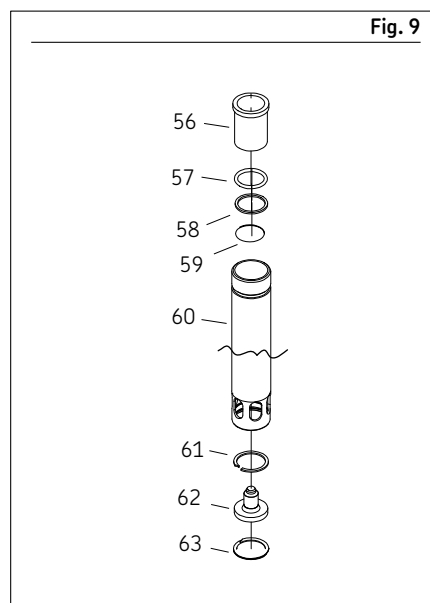

Fig. 9
- 18 Remove outlet pin nut (55) from pump housing (37).
- 19 Remove o-ring (54) from groove in outlet pin nut (55).
- 20 Remove back up washer (52) from outlet pin nut (55).
- 21 Remove o-ring (53) from outlet pin nut (55).
- 22 Repeat steps 18 - 21 for remaining outlet pin nut (55) on opposite side of pump.
- 23 Remove retaining ring (63) from housing tube (60). Refer to Fig. 9.
- 24 Remove shovel plug (62) from housing tube (60).
- 25 Remove spiral retaining ring (61).
- 26 Loosen and remove tube housing (60) (→ Fig. 9).
- 27 Remove bronze bearing (56) from tube housing (60).
- 28 Remove o-ring (57) from tube housing (60).
- 29 Remove back up washer (58) from tube housing (60).
- 30 Remove o-ring (59) from tube housing (60).
- 31 Tap on crank rod (7) inside housing (37).
- 32 Pull eccentric (5) and crank rod (7) out of top of pump housing (37).